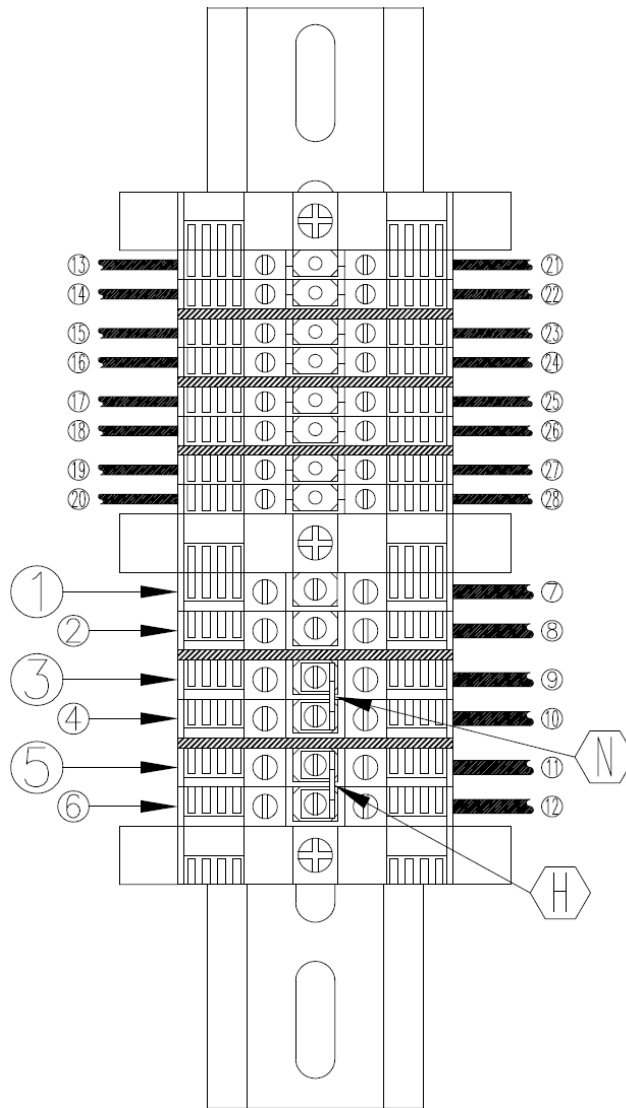

Figure 7 – Diagram - Terminal Strip Wiring Detail
1.10.4.2. Terminal Strip and Control Panel. See Figure 7 for information on connection to the terminal strip in the upper enclosure. Use Section 4.1 – Fenwal manual 06-236529-001 to guide the installation of connections to the control panel. Terminals for 110VAC power accept qty. (1) 10 ga. max. conductor. NOTE: All conductors used for field wiring must comply with NFPA 70 – National Electrical Code, and control panel manufacturer's instructions (see Section 4). See Section 4, pages E-1 and E-2 for information on power-limited conductor runs.
Legend for Figure 7
1.10.4.2.1. Power. 110VAC, 3-wire, single-phase power is attached to the terminal strip in the upper enclosure. See Figure 7. Terminals for 110VAC power accept qty. (1) 10 ga. max. conductor. Current draw: With 1/6HP compressor = 8.8 amps; with 1/3HP compressor = 8.8 amps; with 1/2HP compressor = 10.2 amps.
1.10.4.3. Compressor. See Figure 7. 110VAC, 3-wire, single-phase power is attached to the terminal strip in the upper enclosure. The compressor power is factory-wired to the terminal strip in the upper enclosure. In the default configuration, the same 110VAC source used for the control panel serves for the compressor. If the local authority having jurisdiction requires separate power sources for the control panel and the compressor, jumpers can be removed from the terminal strip. The compressor pressure outlet is factory-attached to the system piping within the lower enclosure.